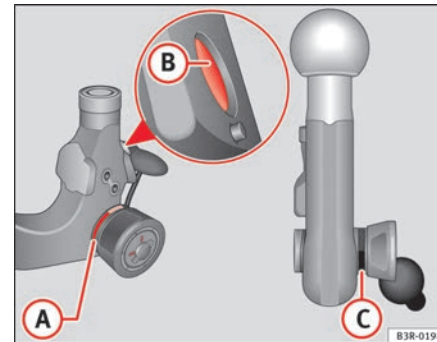

Fig. 151 Removable
- Check that the red marking **(A)** ⇒ page 190, fig. 151 on the knob is inside the black zone marked on the ball joint.